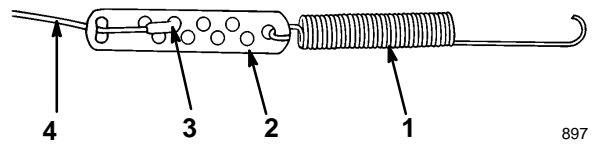

Figure 5
- Hook the spring into the round hole at end of the cable adjuster (Fig. 5).
- Route the cable through the elongated hole in the cable adjuster. Insert the Z fitting on the end of the cable into the third hole from the cable end of the cable adjuster (Fig. 5).